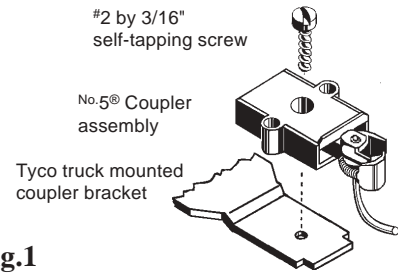

Fig.1
3. Enlarge mounting hole in coupler mounting bracket with a #50 Drill. Place No.5® Coupler assembly on top of the mounting bracket, align holes and secure with a #2 by 3/16" self tapping screw. See Fig.1.